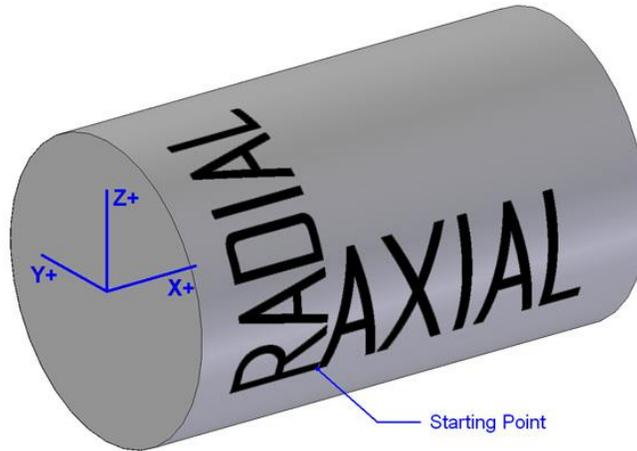

Figure 15.4.3
**AXIAL / RADIAL** – Determines which direction the text will wrap around your cylindrical part. See figure 15.4.3.